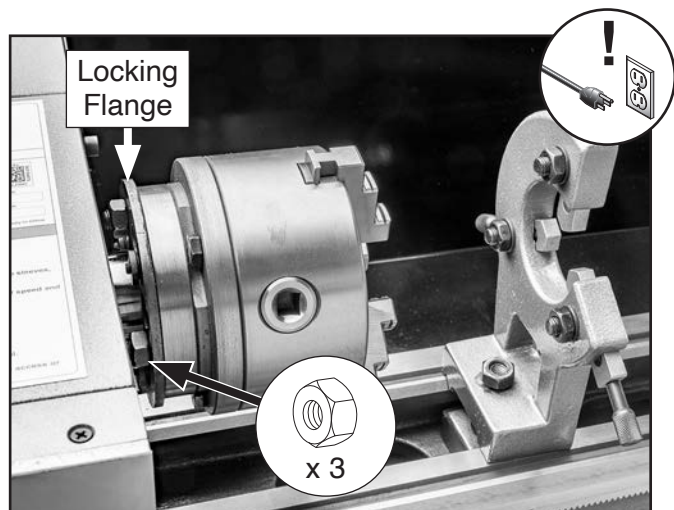

Figure 35. Location of intrinsic back plate hex nuts (chuck shown).
3. Loosen (3) hex nuts shown in **Figure 35**.
4. Turn locking flange counterclockwise to move hex nuts out of flange keyhole slots (see **Figure 35**).